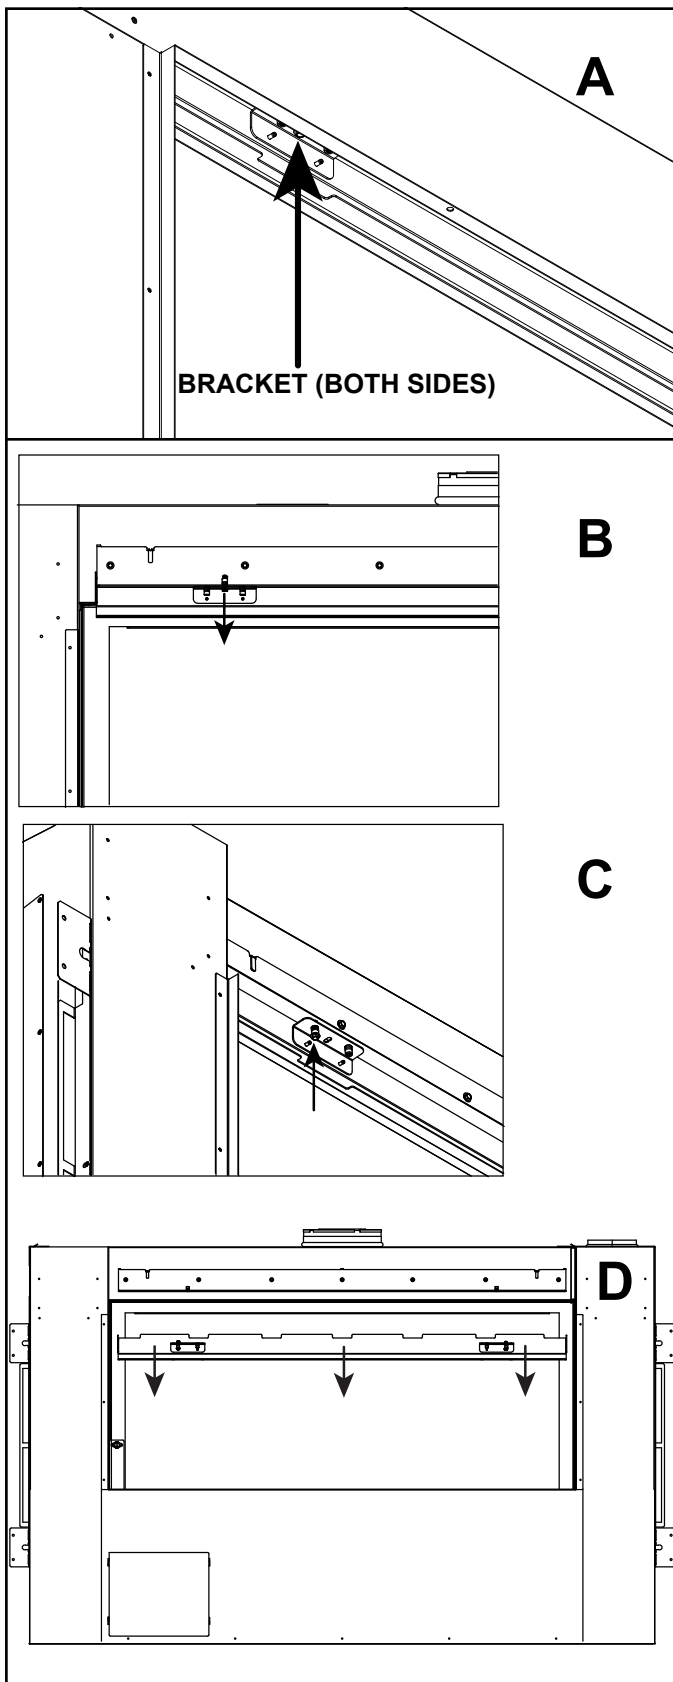

Figure 4.3 Removing Glass Retainer Bar Assembly
2. Locate the brackets, on the left and right sides of the glass retainer bar assembly, that hold the glass in position. See Figure 4.3 (A). Remove the screw from the hole in the center of the bracket. See Figure 4.3 (B).
3. Using a hand tool only, start the threads of the screw into the rivnut in the bracket shown in Figures 4.3 (C) and 4.4. This will hold the screw until it is needed for reassembly.
5. Remove the glass retainer bar assembly. See Figure 4.3 (D).